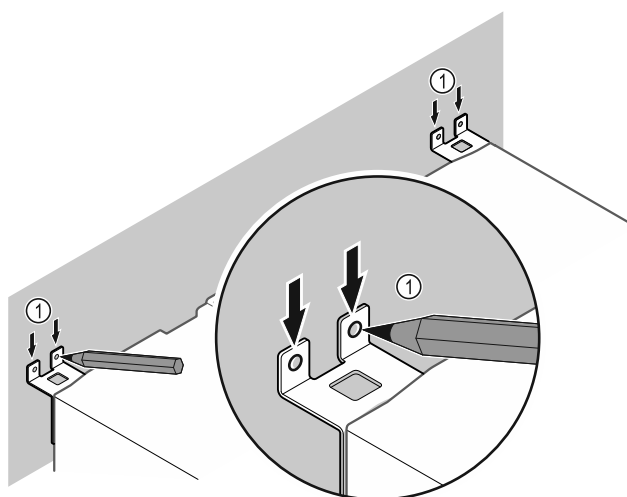

Fig. 9
- Make markings on the wall Fig. 9 (1).